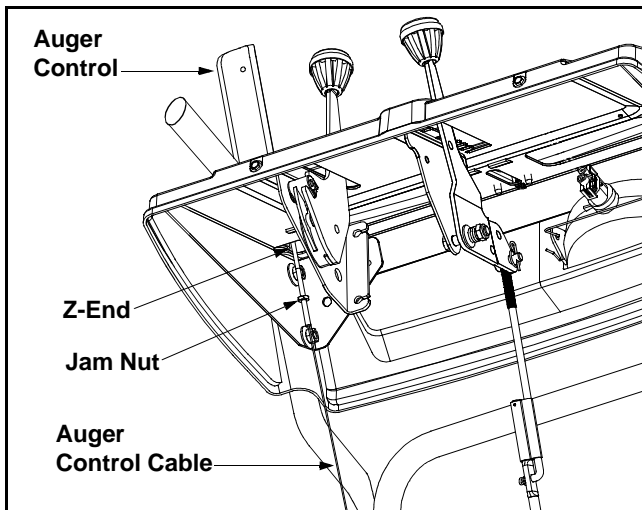

Figure 6
- Push forward on the auger control until the small rubber bumper contacts the upper handle. There should be slack in the cable. See Figure 6.
- Loosen the jam nut and thread the cable in (for less slack) or out (for more slack) as necessary. See Figure 6.